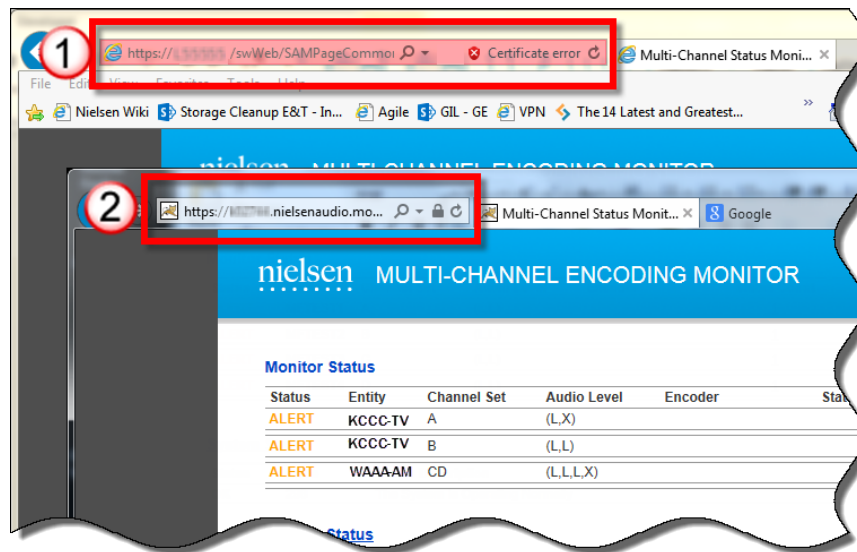

Figure 65: Browser Accessing Monitor without (#1) and with (#2) Root CA Certificate
- a. Click the address bar where the certificate warning appears (#1 in Figure 65).
In Figure 65, the #1 indicates what the address bar looks like when a user has logged into the monitor without a Root CA Certificate installed on the PC. Note that the browser address bar is red with a *Certificate error* warning.